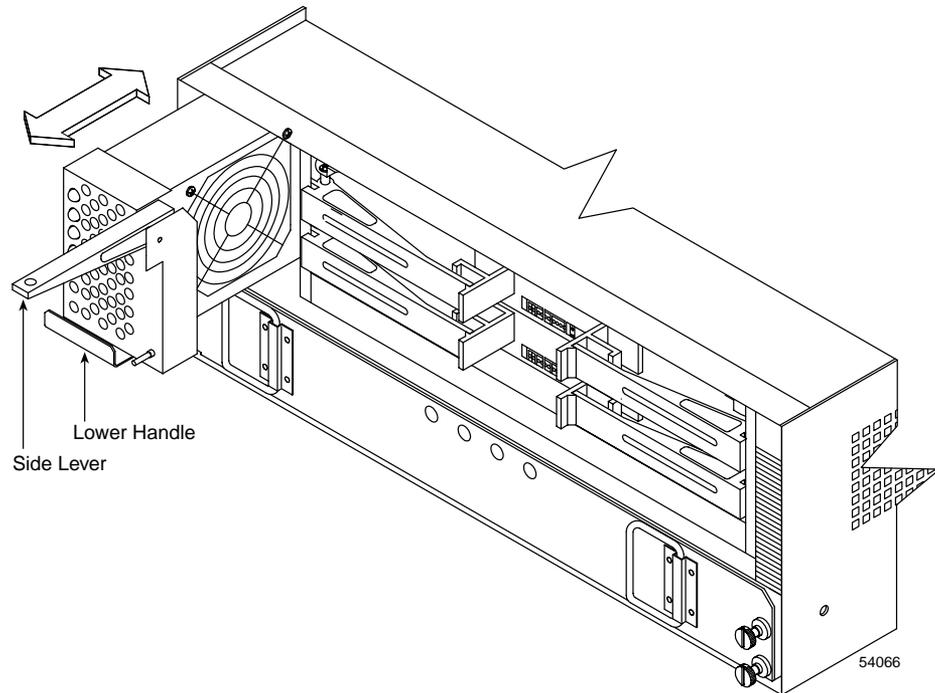

Figure 4-7 Removing and Installing a Controller Fan Canister
3. Remove the failed controller fan (Figure 4-7).
4. Install the new controller fan canister (Figure 4-7).